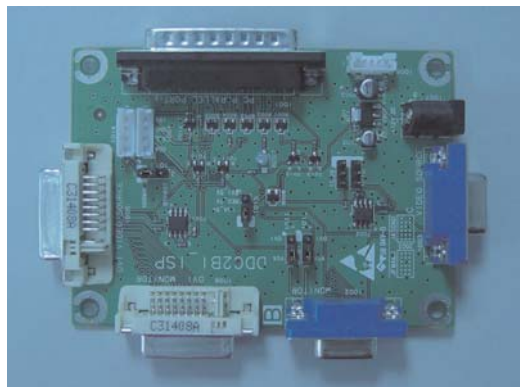

Fig. 2
- A. DDC2BI-ISP TOOL(3138 106 10396) x1 (as Fig. 2)